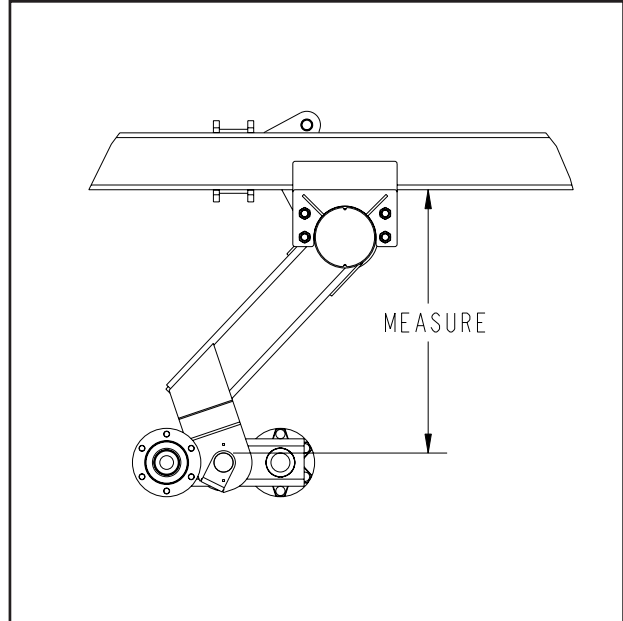
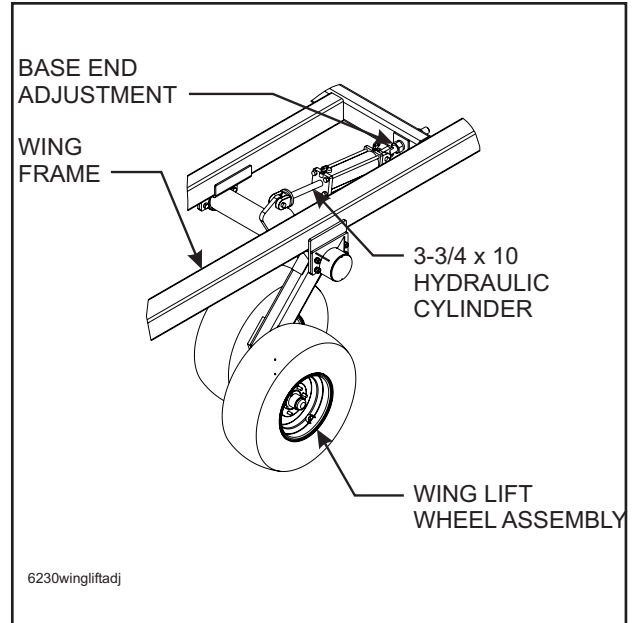

Figure 4-8 Leveling from Side to Side
Figure 4-9 Wing Lift Adjustment
- 4-8.3** To level the unit, verify that all tires are properly inflated, and that the center radius rod adjustment has been properly set. With the implement unfolded, raise the unit to fully extend the lift cylinders. Continue to hold the tractor lever 30-60 seconds to insure that the cylinders are fully extended and the rephasing lift system has been purged of air. Lower the unit until the disc blades are approximately 1" off the ground. On the center frame, measure the distance from the walking beam spindle to the bottom side of the frame (**See Figure 4-8**). Measure the same distance on the wing frame. The wing frames are generally set to the same distance or slightly higher than the center frame. Adjusting the anchor at the base end of each wing lift cylinder sets wing frame height (**See Figure 4-9**).